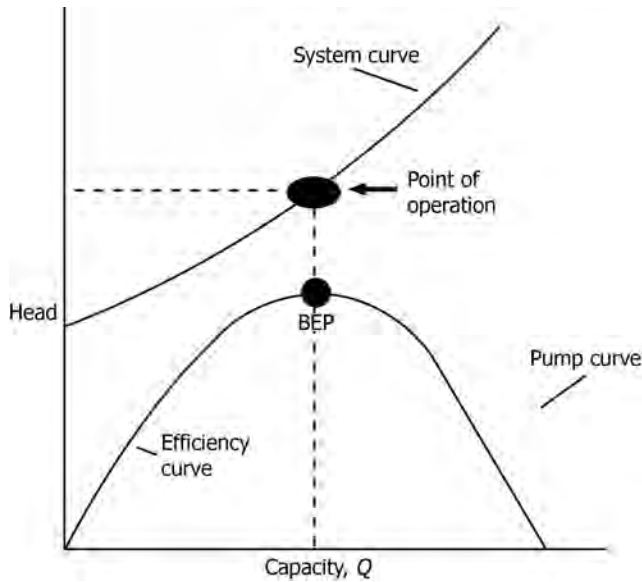

FIGURE 5.15 Pump performance curve and system curve illustrated.
- When the pump curve is superimposed on the system curve, the point of intersection represents the conditions (head and capacity) at which the pump will operate, as illustrated in Figure 5.15.